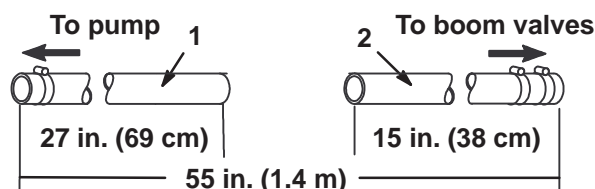

Figure 3
7. Measure, mark, and cut the new boom supply hose assembly as shown in Figure 3.